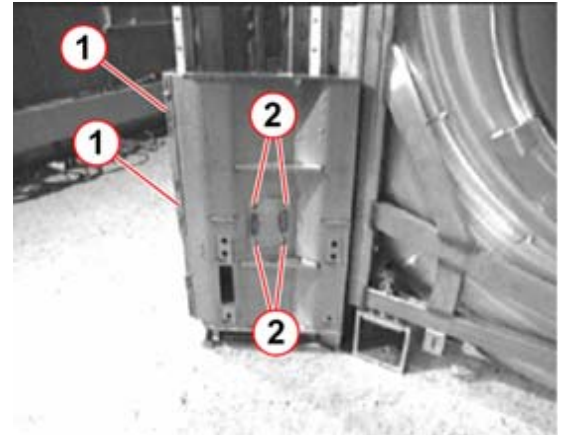

Fig. 12: Table attachment
- Remove the spindle nut mounting (2/Fig. 12 / p. 17) (4 screws) and withdraw it toward the front.
- Mount the spindle nut mounting (2/Fig. 12 / p. 17) with the 4 screws.